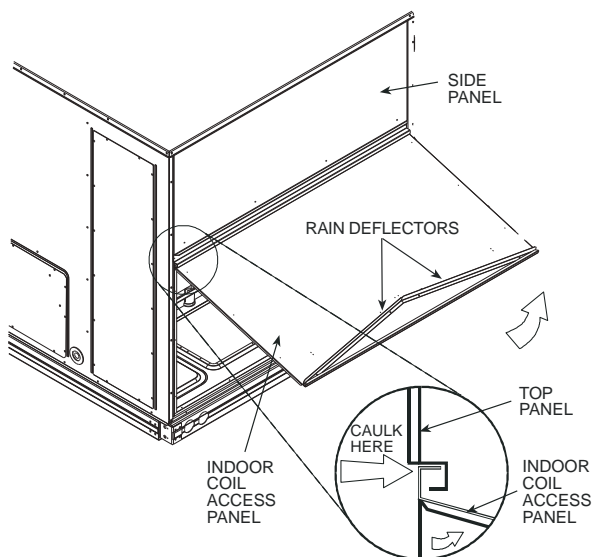

Fig. 21 — Indoor Coil Access Panel Relocation
1. The indoor coil access panel will be used as the top of the hood. If the panel is still attached to the unit, remove the screws along the sides and bottom of the panel. See Fig. 21.
7. Install the two rain deflectors on the edge of the hood top as shown in Fig. 21.
8. Caulk the ends of the joint between the unit top panel and the hood top as shown in Fig. 21.